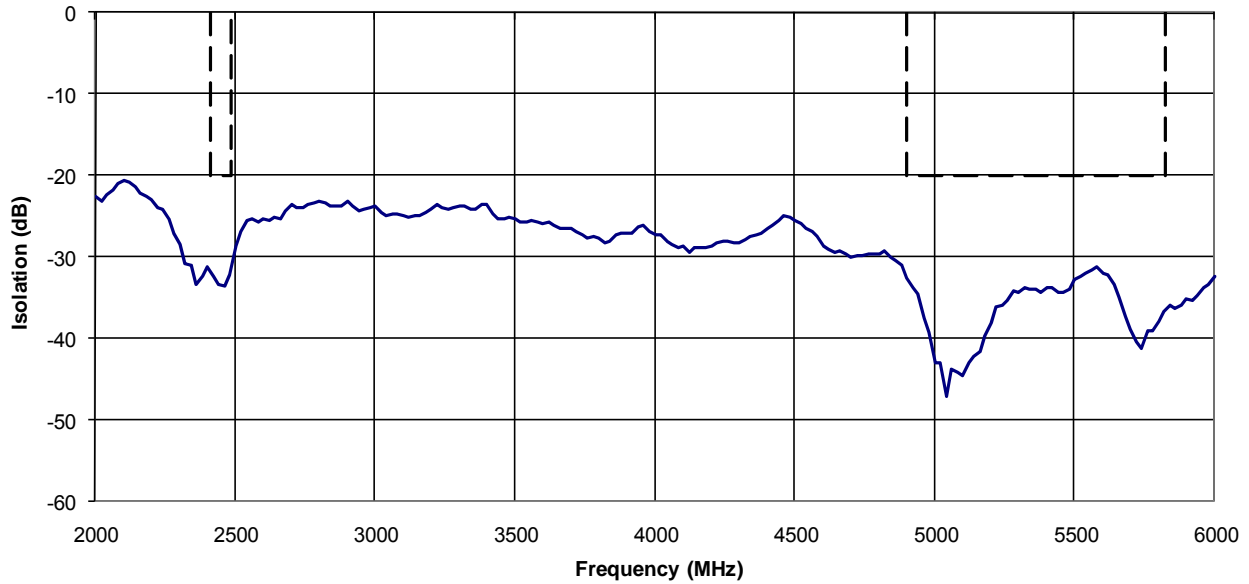

Figure 30
- In-band isolation is less than -30dB as shown in Figure 30 below.